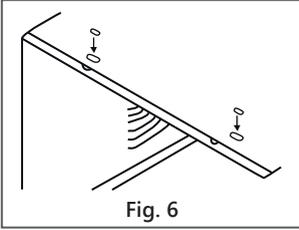

Fig. 6
9. Add two foam inserts to holes in top of cabinet where shipping screws were removed from (see Fig. 6).
1. Attach foam gasket to top rail above holes as shown in Fig. 6.